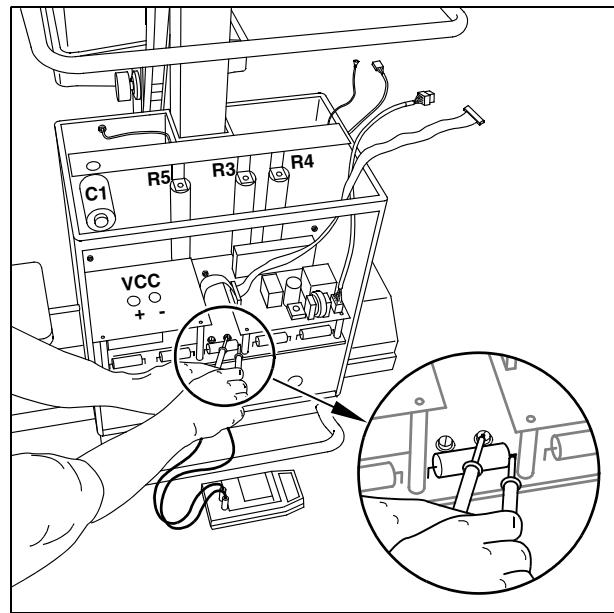

Fig. 1
- Always measure the actual voltage present with the DVM at test points -VCC and + VCC on the D 960 inverter board or (more accessible) on the D 970 capacitor board at the + connection point of capacitor C3 and on the right side of fuse F3 (see Fig. 1).